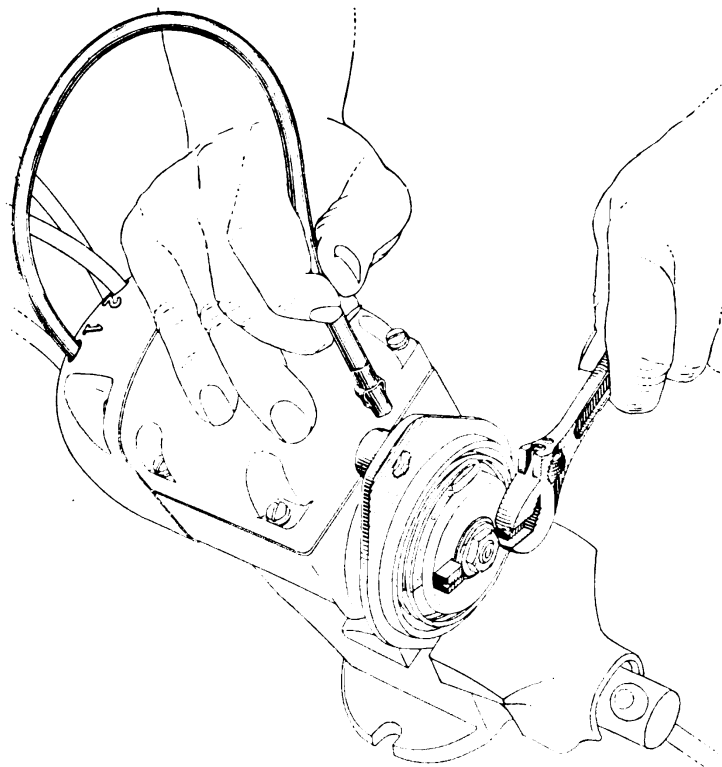

Fig. 36. Locating No. 1 Firing Position of Magneto
7. Support the magneto in an upright position, as shown in Fig. 36. Connect one of the spark plug wires to the Number 1 terminal of the magneto cap. The terminal is marked 1 and is the upper-right hand terminal. Hold the free end of the spark plug wire about  $\frac{1}{8}$  inch from the frame of the magneto Fig. 36. Turn the impulse with the wrench one click at a time, Fig. 36, until a spark jumps between the wire and the frame. Use care to hold the wrench and magneto firmly so impulse will not move beyond the point where it trips and the spark occurs. The position at which the spark occurs indicates the approximate setting of the magneto for firing position of No. 1 cylinder.